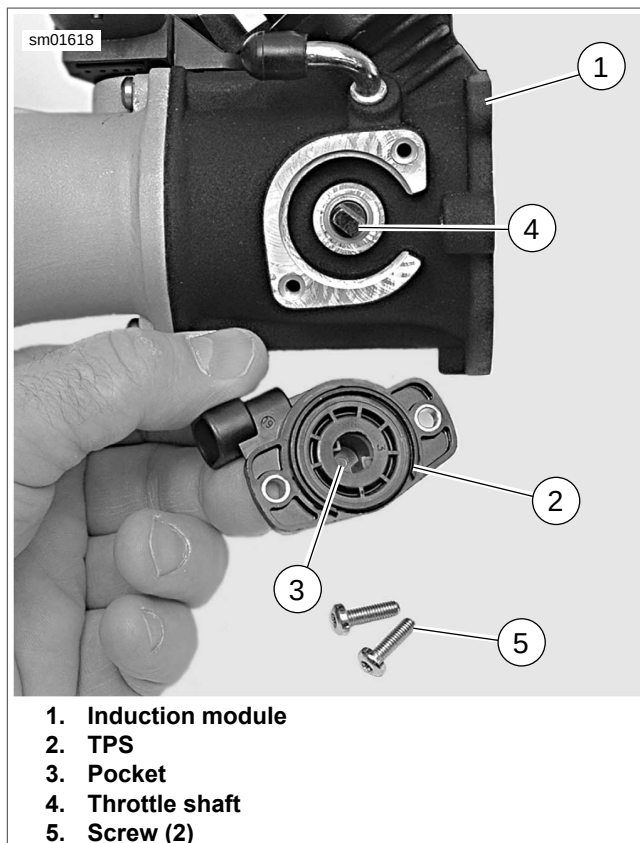

Figure 4-23. Throttle Position Sensor (TPS) Installation: XL Models
- See Figure 4-23. Fit pocket (3) of TPS (2) over throttle shaft (4). Orient TPS correctly and line up mounting holes in sensor with holes in body of induction module (1).
- Make sure TPS body is flush against mounting boss on induction module body. Install two screws (5) to fasten sensor to induction module. Tighten screws to 35 in-lbs (4.0 Nm).